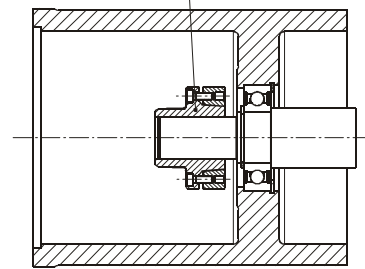
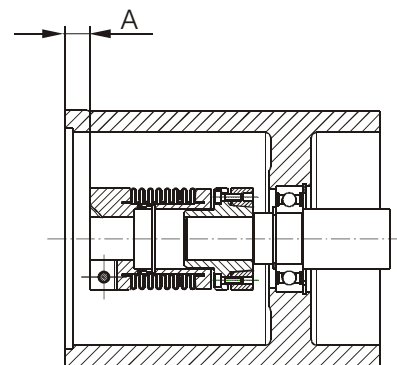

Fig. 10
Fig. 11
## Installation Independent of Type (Figs. 10 to 13)
Also check whether the shaft projects at least 2/3 of the hub length into the hub (see Fig. 10).
3. Plug the coupling together and determine the distance dimension "A" between the housing flange and the coupling, see Fig. 11.
primeflex®-couplings compensate for angular, axial and radial shaft misalignments (Fig. 10) without losing their backlash-free function. However, the permitted shaft misalignments indicated in Table 1 must not simultaneously reach their maximum value. If more than one kind of misalignment takes place simultaneously, they influence each other. This means that the permitted misalignment values are dependent on one another (Fig. 11). The sum total of the actual misalignments in percent of the maximum value must not exceed 100 %.